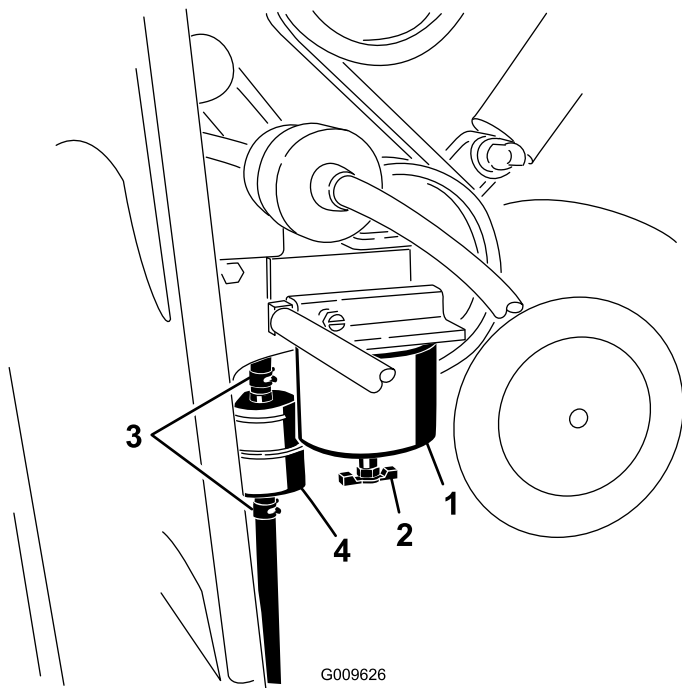

Figure 35
3. Locate the fuel filter on the right side of the engine (Figure 35) and place a clean container under it.
- Locate the fuel filters on the right side of the engine (Figure 35) and place a clean container under it.
- Clean the area where the filter canister mounts (Figure 35).
- Remove the filter canister and clean the mounting surface (Figure 35).
- Install the filter canister by hand until the gasket contacts the mounting surface, then rotate it an additional 1/2 turn (Figure 35).
- Locate the in-line filter to the left of the fuel filter canister (Figure 35) and note the direction of flow arrow on the side of the in-line filter.
- Open the clamps on each end of the in-line filter and slide the hoses off it (Figure 35). Discard the filter.
- Slide the hoses over the end of a new filter (Figure 35), ensuring that the arrow on the filter is pointing toward the engine or electric fuel pump.